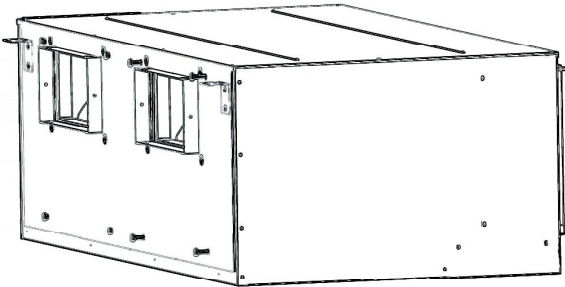

Fig.9-3
- 4) Move away 4 pieces of M8 screws from the front board of air conditioner. (Fig.9-3)